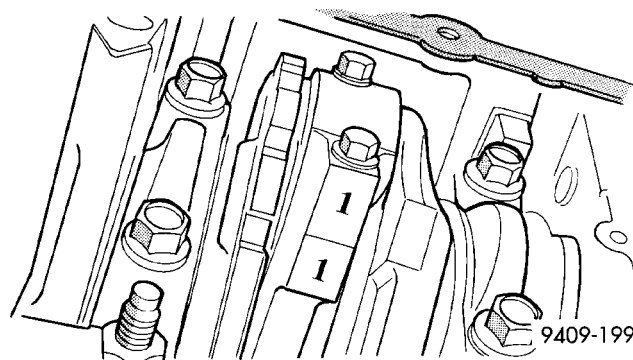

Fig. 75 Identify Connecting Rod to Cylinder - Typical
- (4) Using a permanent ink or paint marker, identify cylinder number on each connecting rod cap (Fig. 75).